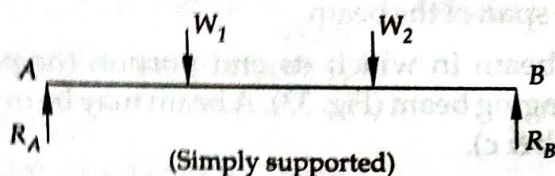

Fig. 36 Simply Supported
1. Simply supported beams: A beam which rests freely on supports at its both ends is called simply supported or freely supported or knife edge supported beam. The Supports may be in the form of walls or columns. In such a case, the reaction is always vertical as shown in Fig. 36.